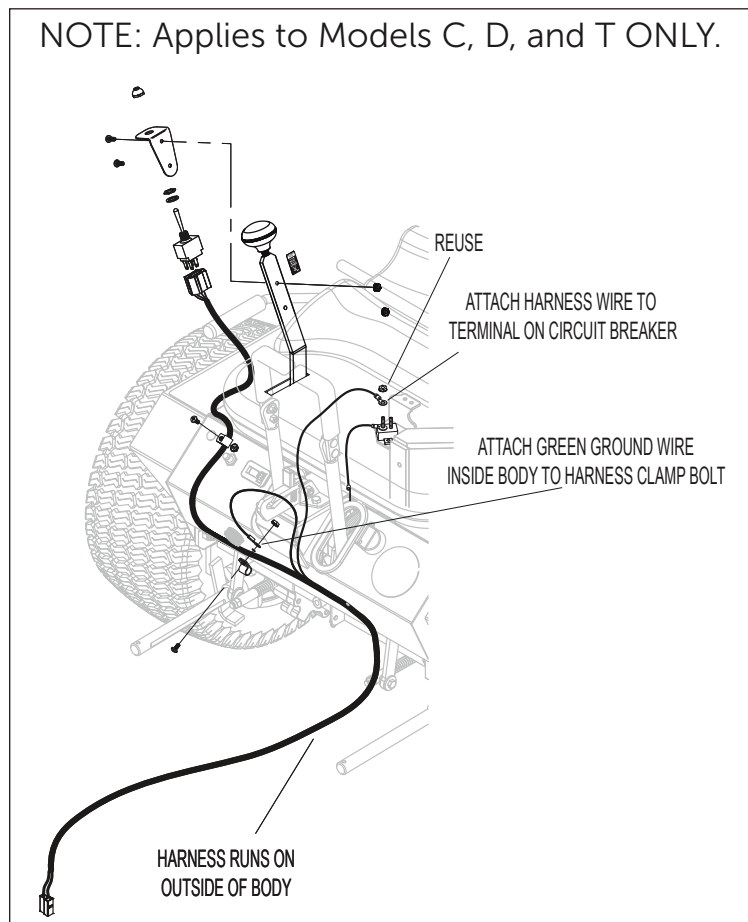

Figure 1.1
1. Attach the toggle switch mounting bracket to the FSC lever using two (2) 10-24 x 1/2" bolts and Keps nuts (figure 1.1).
4. Connect the wiring harness to the switch and route the harness. Install the wiring harness to the tractor body using the two wiring clamps, two 10-24 x 3/8" bolts and Keps nuts (figure 1.1).
5. Attach the ground wire ring terminal to the inside of the body using the lower cable clamp mounting bolt (figure 1.1).